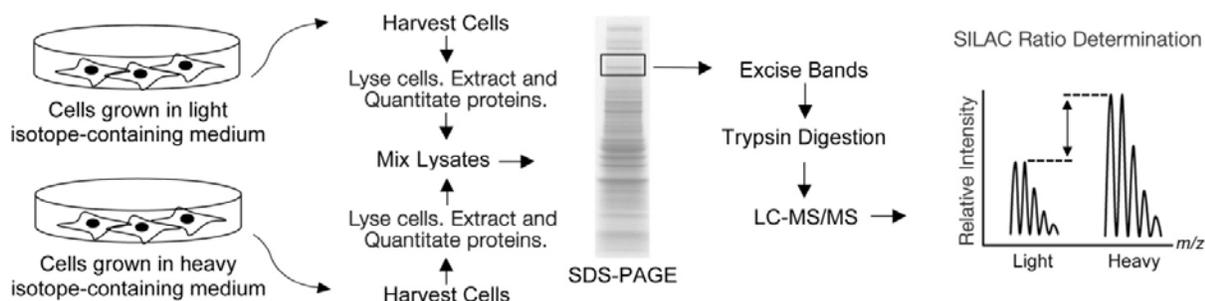

Figure 1. Schematic of SILAC workflow.
Typical experiments involve growing two cell populations using cell culture media that are identical except that one contains the natural amino acid, referred to as “light”, and the other contains the heavy form (e.g., ¹²C₆ and ¹³C₆ L-lysine, respectively). Heavy L-arginine, available separately (Product No. 88210, 89990) or part of SILAC kits (Product No. A33972, A33973), is often added to enhance peptide isotope label coverage when using trypsin for protein digestion. Protein levels in one sample are then altered through chemical treatment or genetic manipulation. Equal concentrations of protein cell lysate from both cell populations are then combined and digested with Lys C or trypsin using in-gel (Product No. 89871) or in-solution (Product No. 84840) sample preparation methods to generate peptides for mass spectrometry (MS) and quantitation of isotopic peptide pairs (Figure 1). Alternatively, the untreated sample can be used as an internal standard to compare multiple samples with different treatments. When combined with Thermo Scientific™ Protein/Peptide Sample Enrichment Products, the Pierce SILAC kits allow MS identification and quantitation of low-abundance proteins, cell-surface or organelle-specific proteins, and post-translational modifications such as phosphorylation or glycosylation.